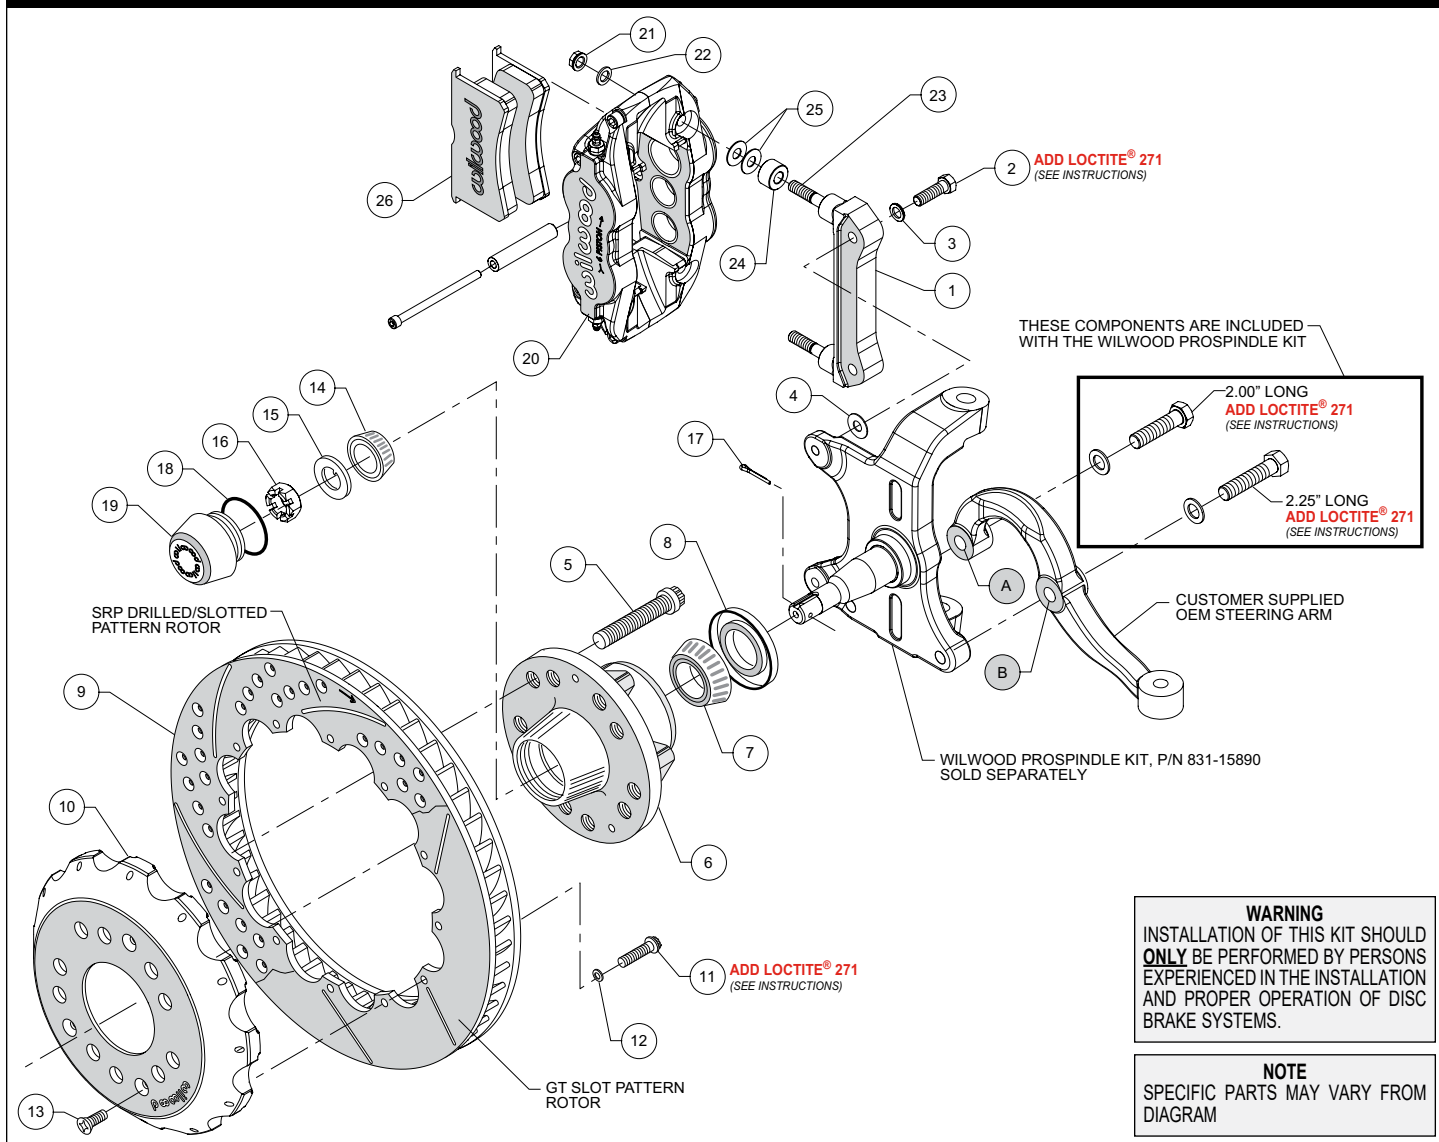
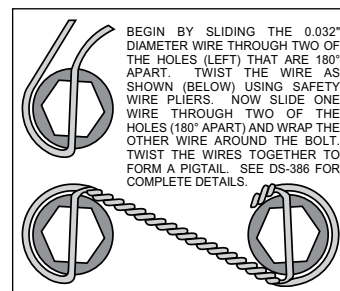

Figure 1. Typical Installation Configuration
Figure 3. Safety Wire Diagram
•**NOTE:** Numbers in parenthesis refer to the parts list and Figure 1 on the preceding pages.
•**NOTE:** Wilwood's AFX ProSpindle kit includes bolts and washers to mount the steering arm (customer supplied) to the spindle. The various bolts are identified by length in the following instructions and in Figure 1.
•Orient the steering arm, and identify the hole marked "A" as shown in Figure 1. Attach arm to spindle using 2.00" long bolt and washer (from ProSpindle kit), Figure 1. Finish attaching the steering arm through the hole marked "B", using 2.25" long bolt and washer (from ProSpindle kit), Figure 1. Temporarily tighten the mounting bolts. **NOTE:** The steering arm must fit squarely against the mounting points on the spindle. Inspect for interference from casting irregularities, machining ridges, burrs, etc. Remove bolts one at a time, apply red *Loctite*® 271 to threads, and torque to 77 ft-lb.
•The caliper mount bracket (1) should initially be installed with clean, dry threads on the mounting bolts. Orient the bracket as shown in Figure 1, and install using bolts (2) and washers (3). Initially place one .035" thick shim (4) on each bolt between the bracket and spindle, Figure 1 and Photo 1. Temporarily tighten the mounting bolts. **NOTE:** The bracket must fit squarely against the mounting points on the spindle. Inspect for interference from casting irregularities, machining ridges, burrs, etc. Later, after the caliper alignment has been checked, the mount bolts will be secured using red *Loctite*® 271.
•Install wheel studs (5) into the hub (6), Photo 2. Torque to 77 ft-lb. **NOTE:** There are two five lug patterns in the hub (5 x 4.50 and 5 x 4.75). Ensure the correct hub stud pattern is being used to fit the wheel application.
•Pack the large inner bearing cone (7) with high temperature disc brake bearing grease (available from your local auto parts store) and install into the backside of the hub (6), Photo 3.
•Install the grease seal (8) by pressing into the backside of the hub (6), flush with the end of the hub, Photo 3.
•Pack the small outer bearing cone (14) with high temperature disc brake bearing grease and install into front of hub (6). Slide the hub assembly onto the spindle. Secure using spindle washer (15) and spindle nut (16), Photo 4. Bearing adjustment: Tighten the nut while turning the hub. When there is a slight bind on the bearings, they are seated correctly. Back the nut off about 1/6 to 1/4 of a turn, or sufficiently to allow .001" to .007" end play. **WARNING:** Failure to back off adjusting nut could cause bearing to run hot and be damaged, which could cause the wheel to lock or come off. Install a new cotter pin (17).
•Screw dust cap (19) into hub (6). Friction created by the o-ring (18) on the dust cap keeps it from unscrewing. **NOTE:** The O.D. of the existing OEM spindle washer may be larger than the I.D. of the dust cap not allowing it to seat against the hub face.
- Orient the rotor (9) and the hat (10) as shown in Figure 1 and Photo 5. Attach rotor to hat using bolts (11) and washers (12). Apply red *Loctite*® 271 to the bolt threads and torque to 155 **in-lb** using a criss-cross pattern. For an added measure of security, the bolts may be safety wired using standard 0.032 inch diameter stainless steel safety wire as shown in Figure 3. Refer to Wilwood's data sheet DS-386 (available at www.wilwood.com/Pdf/DataSheets/ds386.pdf) for complete safety wire installation instructions.
- **NOTE:** *This kit contains distinct right and left hand calipers that must be mounted in a specific direction, as described below.* Initially place one spacer (24) and two .035" thick shims (25) on each stud (23) between the caliper and the bracket, as shown in Figure 1 and Photo 7. Mount the caliper (20) onto the bracket (1) using lock nuts (21) and washers (22), Figure 1. Ensure that the caliper is mounted so the largest pistons are at the rotor exit end of the caliper, in relation to the direction of rotor rotation. Temporarily tighten the lock nuts and view the rotor through the top opening of the caliper. The rotor should be centered in the caliper, Photo 8. If not, adjust by adding or subtracting shims (4) between the bracket and the spindle. Always use the same amount of shims on each of the two mounting bolts. Once the caliper alignment is correct, remove the bracket mounting bolts (2) one at a time, apply red *Loctite*® 271 to the threads, and torque to 40 ft-lb.
- Remove the caliper center bridge pad retainer bolt, nut, and tube from the caliper. Insert the brake pads (26) into the caliper, with the friction material facing the rotor, as shown in Photo 9. Check that the top of the brake pad is flush with the outside diameter of the rotor, Photo 10. If not, adjust by adding or subtracting shims (25) between the caliper and the bracket. After the caliper pad height is set, torque the caliper lock nuts (21) to 30 ft-lb. Secure the brake pads in place with the center bridge pad retainer tube, bolt, and locknut, Photo 11. The locknut should be snug without play in the bolt or tube. Be cautious not to over tighten.